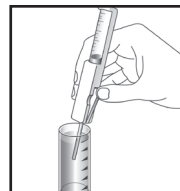

Figure 6
- Hold the Titrettor with the sample pipe in the sample. Press the control bar firmly, but briefly, to pull in a small amount of sample (fig. 6). The contents will turn **PURPLE**.
- Press the control bar again to draw another small amount of sample into the ampoule (fig. 6).